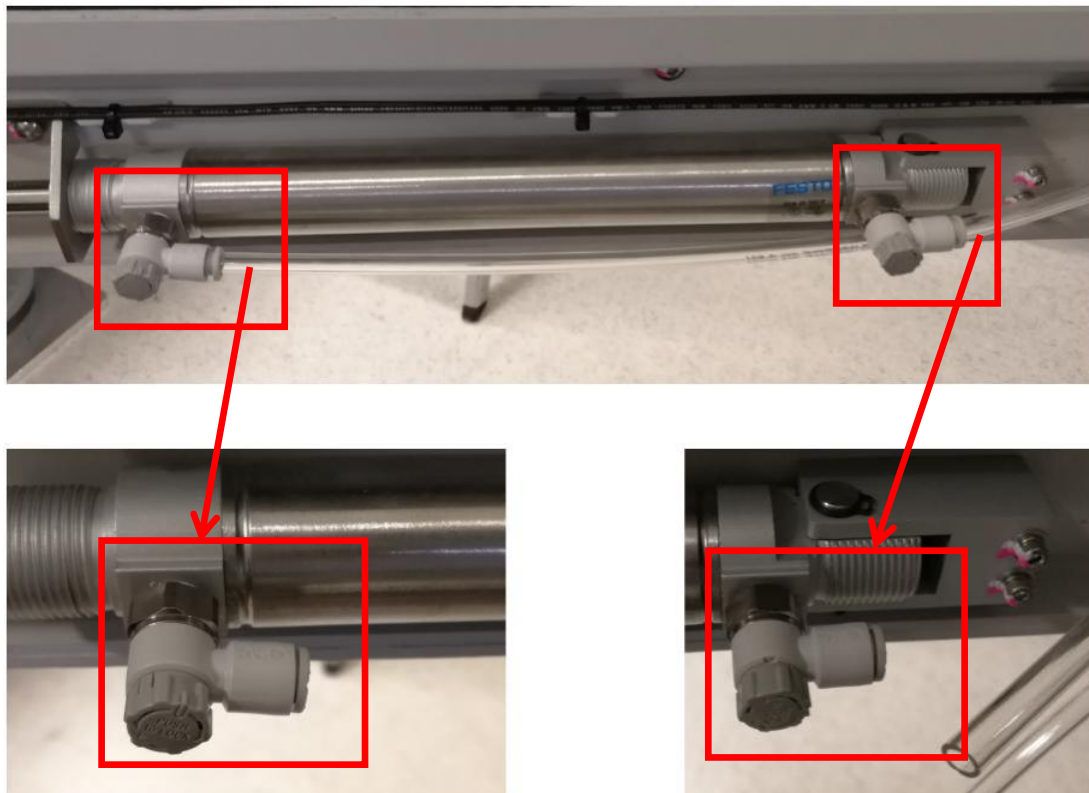

Figure 2
5. Remove 2 x Tubing from Outer Barrier Speed Controller as Figure 2